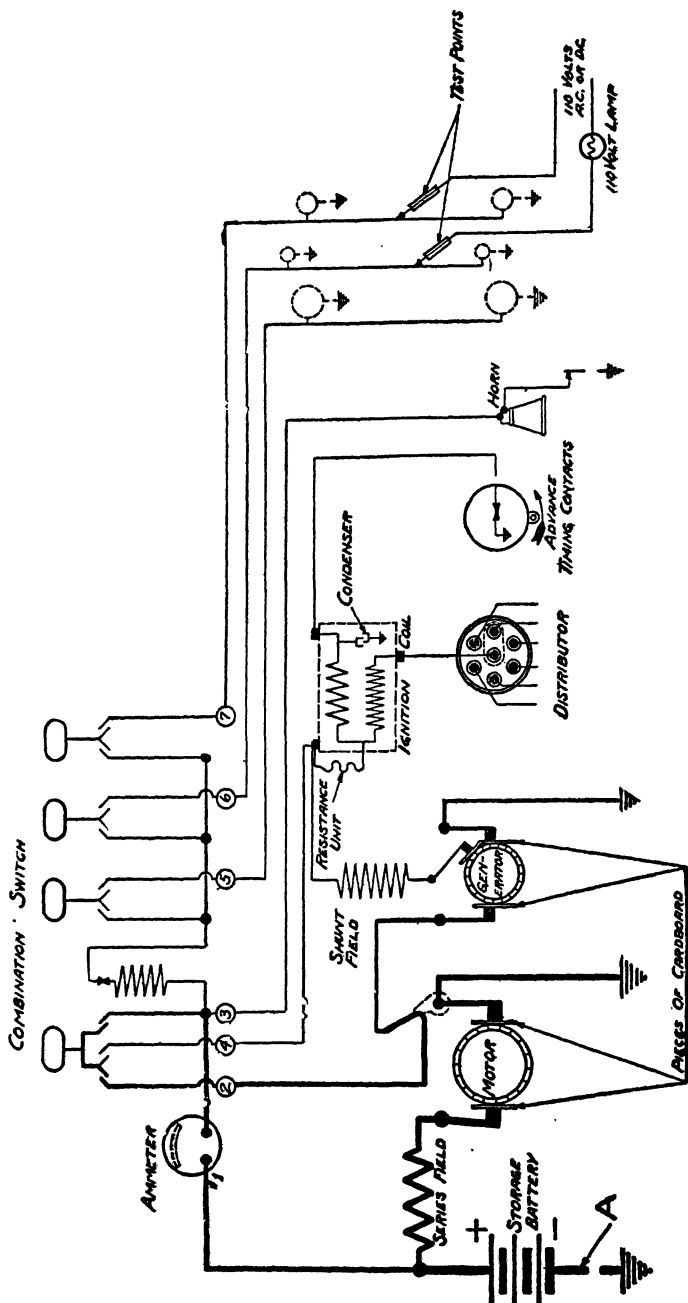

Fig. 22. Wiring Diagram Showing Method of Using Lamp-Testing Set for Locating Short-Circuits
**Locating Shorts.** To test for short-circuits between wires that are normally insulated from each other, place one test point on the end of one wire and the second test point on the end of the other, as shown in Fig. 22. If the lamp lights, it will indicate a short-circuit